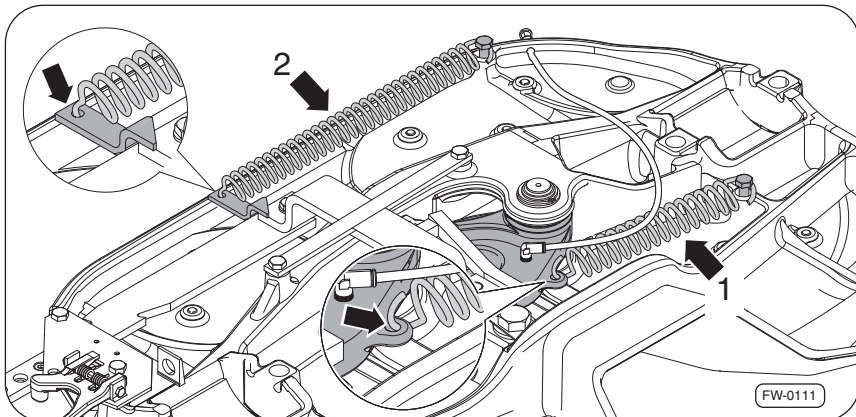

Fig. 36 · Hook spring on
Observe correct installation position of the tension spring on the coupler jaw, Fig. 36 - during driving, the eyelet opening must face downwards–direction of arrow–!
5. Hook the spring Fig. 36, –arrow 2– on to the coupler jaw and release lever –arrow 1–.